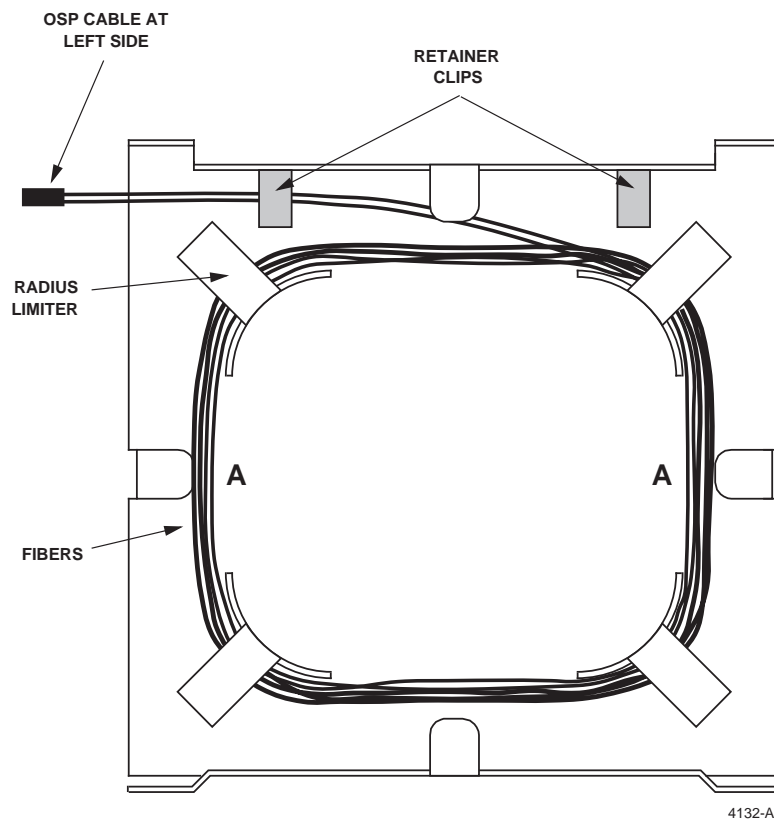

Figure 8. Fiber Routing in Splice Module
5.12 Route OSP/IFC fibers through a side access opening in the chassis to the assigned drawer of the splice module. Service loop should be stored in the assigned drawer per **Figure 8**. Make sure to route fibers through the retaining ring in the back of the drawer. Passing the fibers through the retaining ring is required for the first pass only. The fiber bundles (service loop) should make three and one-half passes around the radius limiters and then be routed such that the end of the braided sleeve or protective sleeve occurs at a point between the two side radius limiters, noted as position “A” in **Figure 8**, and just onto the splice tray. Coil the fiber bundles around the four radius limiters, either counter-clockwise if entering the splice drawer from the right, or clockwise if entering the splice drawer from the left.